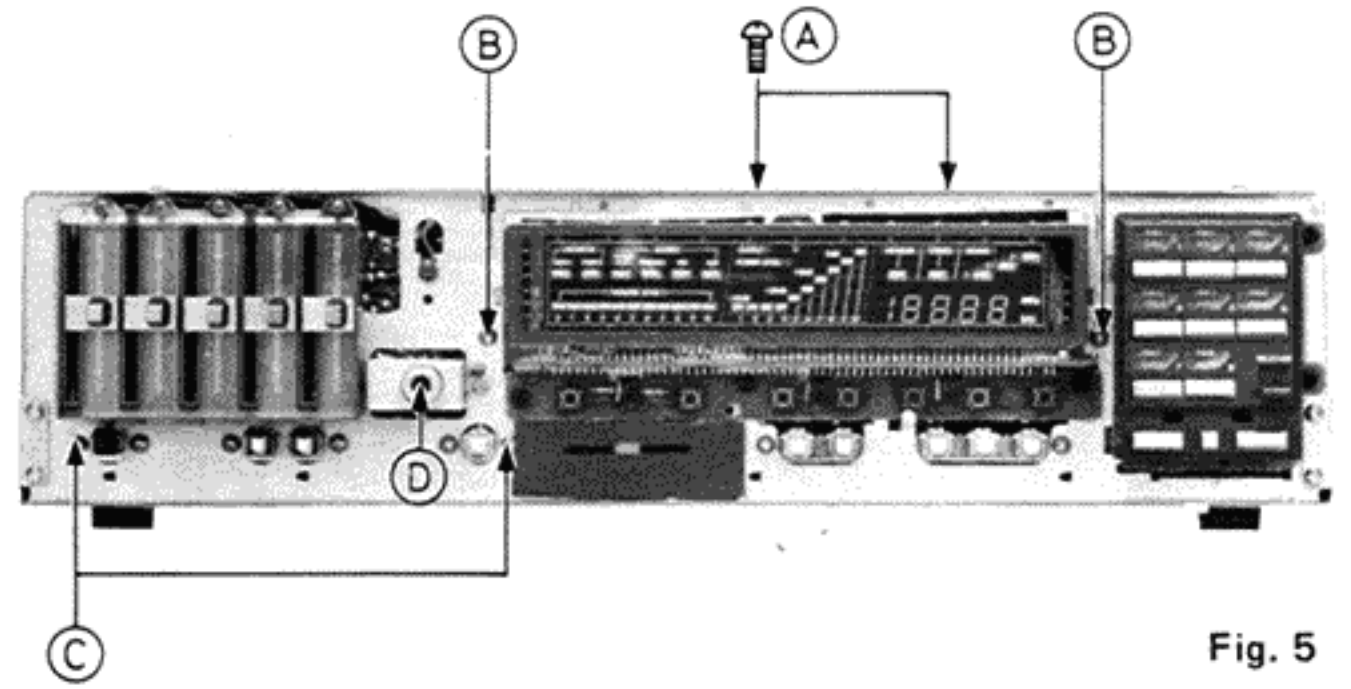
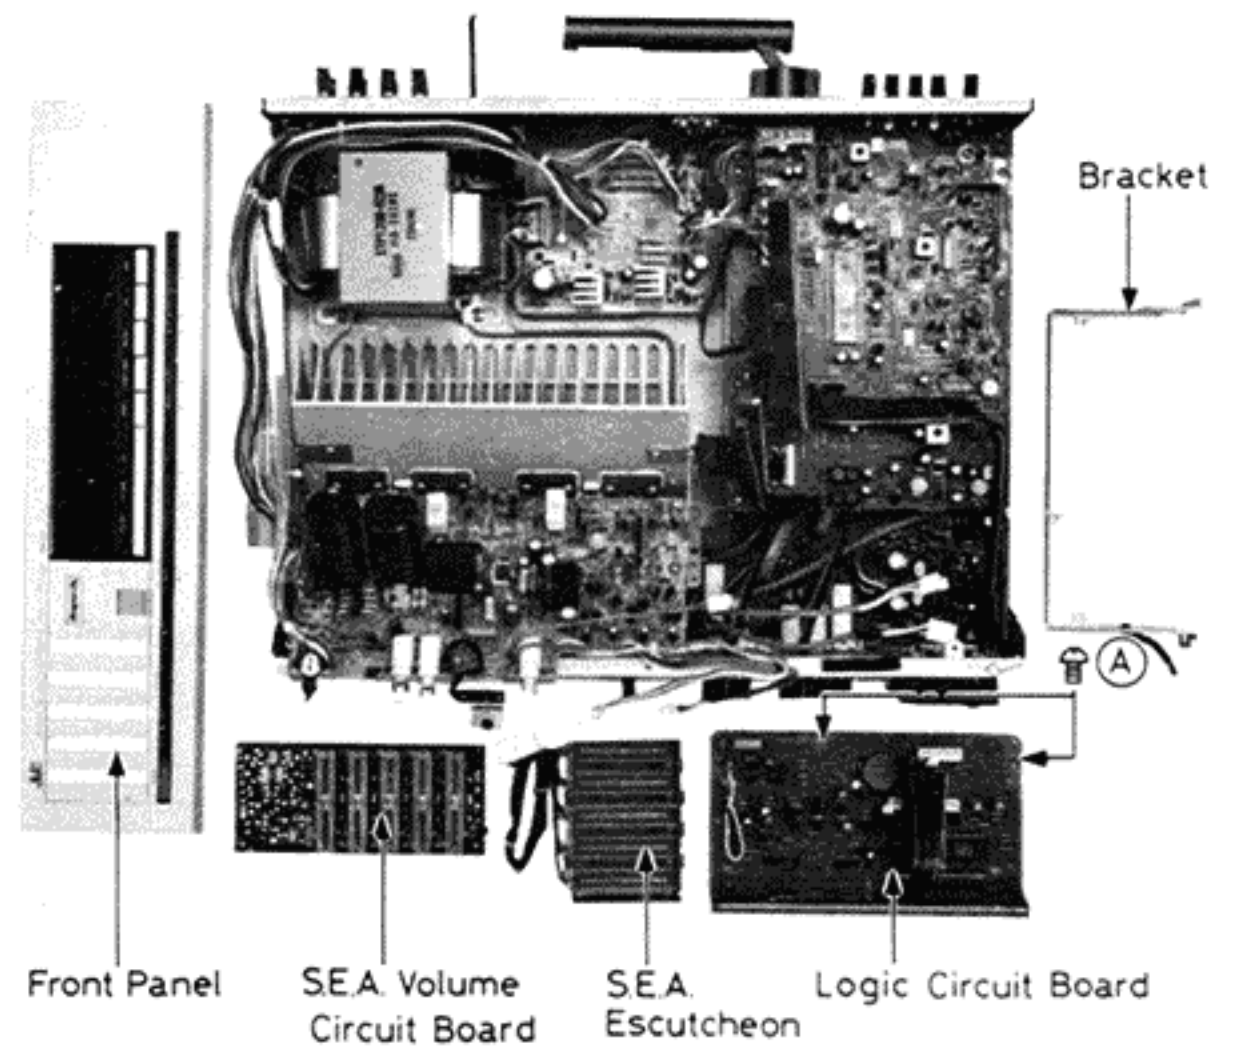

Fig. 5
Fig. 6
4. Remove the two securing screws (A) of the logic board (Fig. 5), then pull out the logic board forward.
5. Remove the two bracket securing screws (B) on the logic board (Fig. 5), then remove the bracket.
6. Remove the six push-switch securing screws (C) on the power board. (Fig. 5).
7. Remove the securing nut (D) of the headphones jack.
8. Take out the power board as shown in Fig. 6, and replace power transistors.